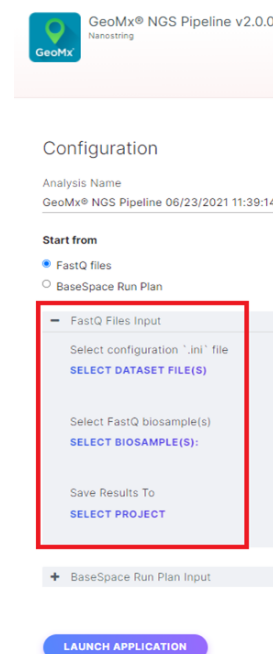

Figure 16: Choose file inputs
4. Choose the **Start From: FASTQ files** option (Figure 16). Under **FASTQ Files Input**, choose the configuration (.ini) file, FASTQ files, and an output project.